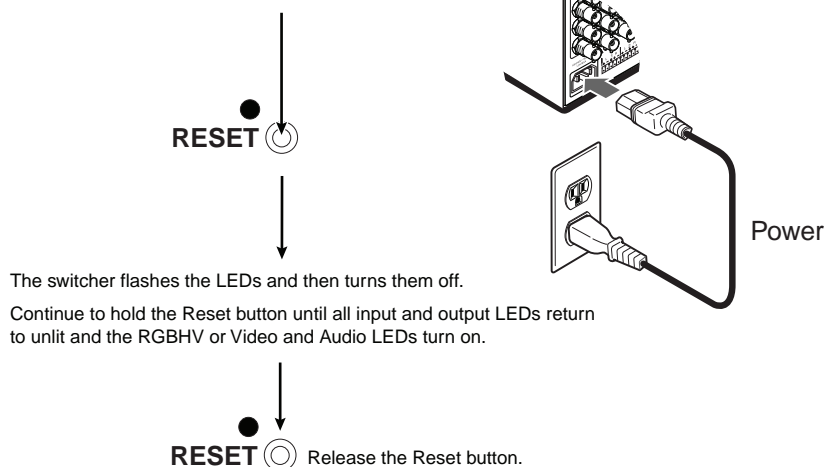

Figure 3-63 — Hard reset
2. Press and **hold** the Reset button on the rear panel **while** you apply AC power to the switcher (figure 3-63).